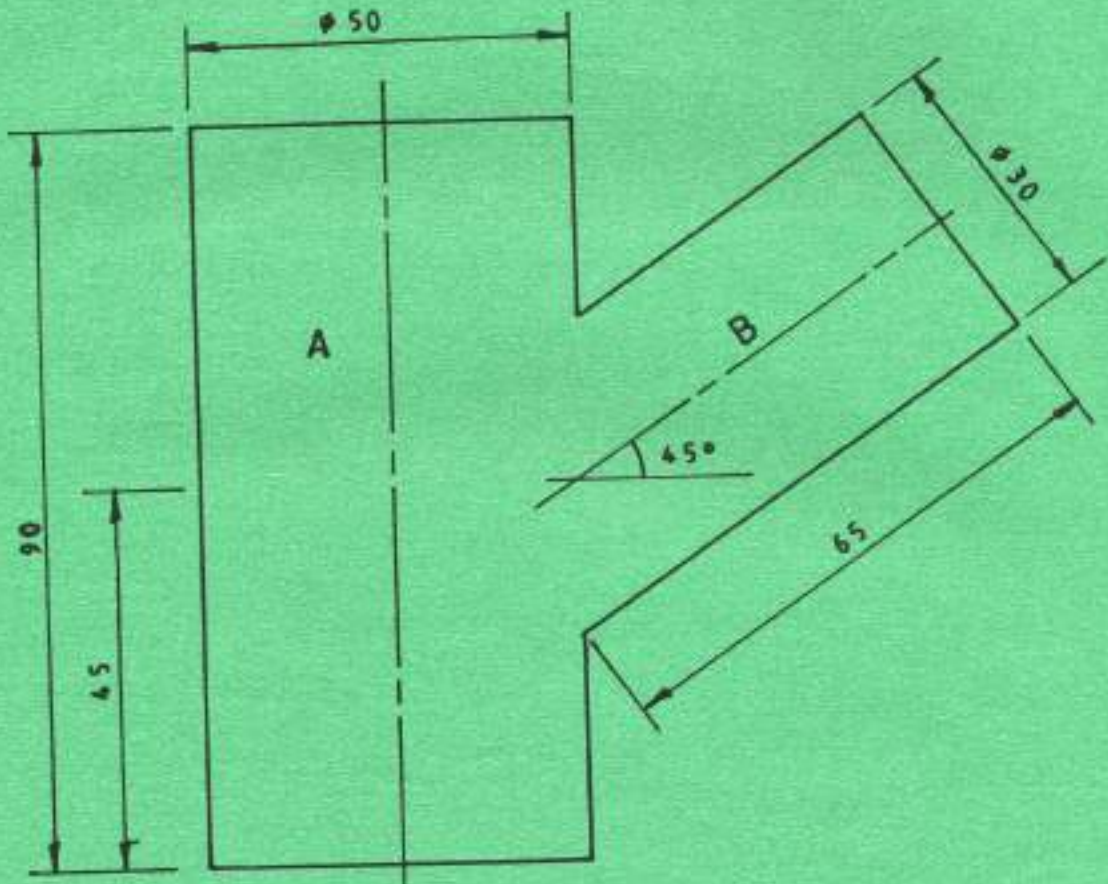

Fig. 6
6. Figure 6 shows an elevation of two intersecting cylinders. Copy the given view and draw the following: